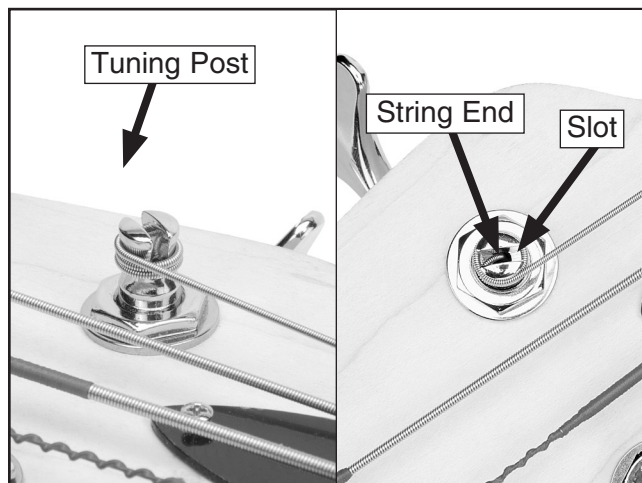

Figure 29. String wrapped around tuning post.
5. Rotate the tuners until the string just begins to hold the winding tension (**Figure 29**).